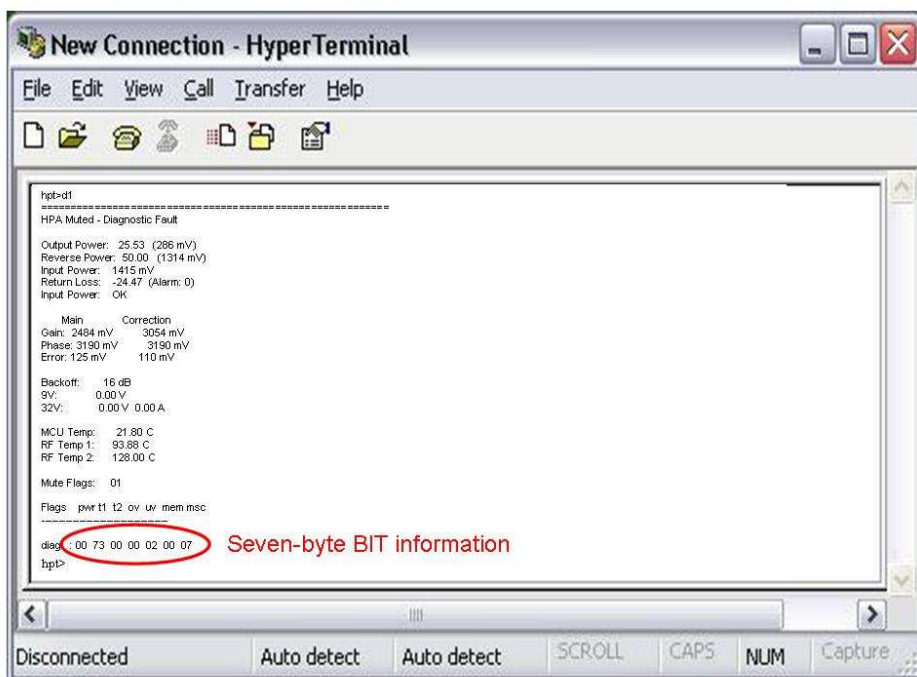
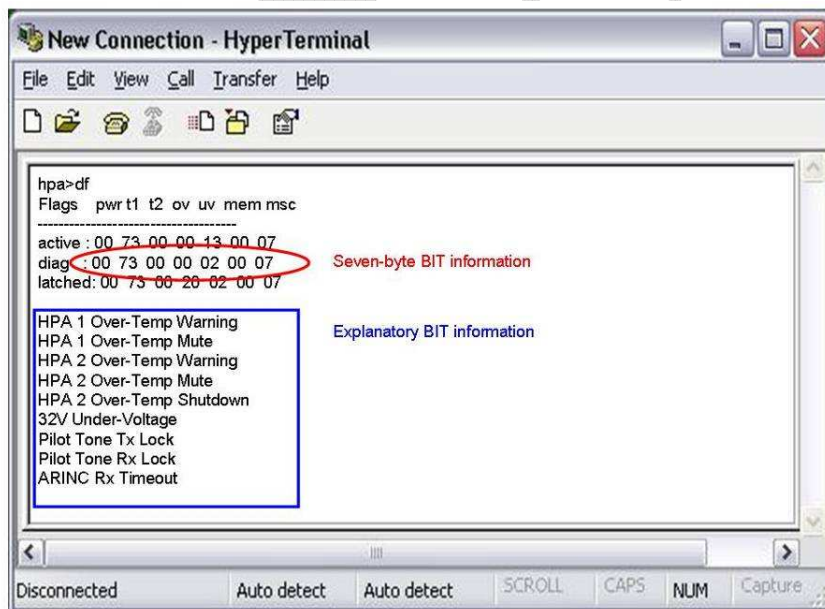

Figure 4.6 BIT diagnostic information
Figure 4.7 Explanatory BIT diagnostic information
Step 2: Type the command “d1” (note: it is the numerical digit “one”, not the alphabet “l”) and press “enter”. The diagnostic information will be shown in Figure 4.6 as an example.
The seven hex-value numbers, titled as “diag”, in Figure 4.6 represent the seven bytes of BIT results.
Step 3: Type the command “df” and press “enter”, the explanatory BIT diagnostic information will be displayed as in Figure 4.7.
For example, in Figure 4.6 and Figure 4.7, the second BIT byte is “73” in hex value. By Table 3.1, this is equivalent to “01”+“02”+“10”+“20”+“40”, which
means “HPA 1 Over-Temp Warning”, “HPA 1 Over-Temp Mute”, “HPA 2 Over-Temp Warning”, “HPA 2 Over-Temp Mute” and “HPA 2 Over-Temp Shutdown” as in the first five lines of the explanatory message in Figure 4.7. The fifth BIT byte is “02”, which means “32V Under-Voltage” as in the sixth line of the explanatory message in Figure 4.7. The seventh BIT byte is “07” (ie. “01”+“02”+“04”), which means “Pilot Tone Tx Lock”, “Pilot Tone Rx Lock” and “ARINC Rx Timeout” according to Table 3.1, as in the last three lines of the explanatory message in Figure 4.7.